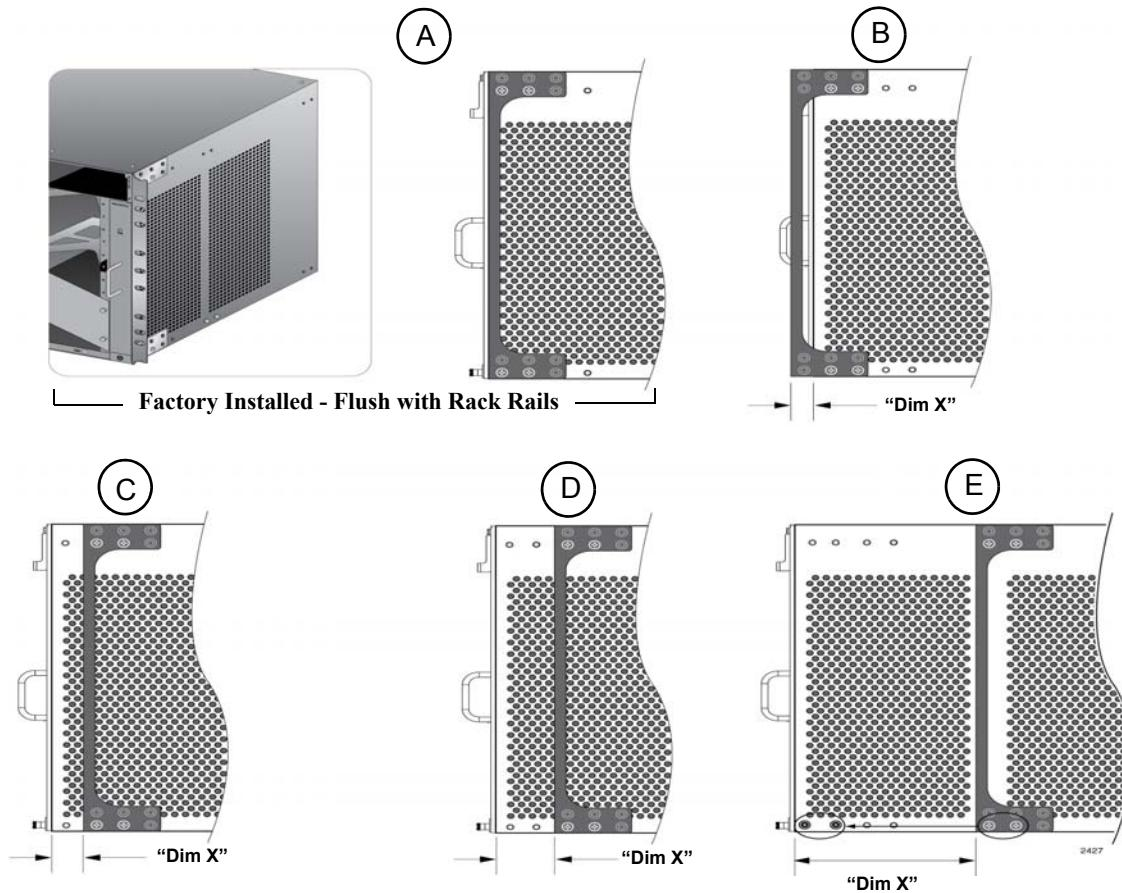
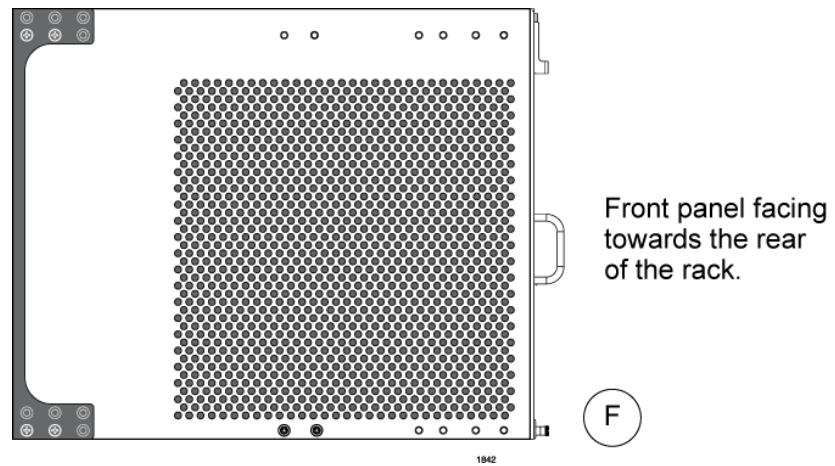

Figure 33. Rack Mounting Bracket Locations
Figure 34. Rack Bracket Locations for Reverse Position of Chassis
The different bracket positions are listed in Table 20 and illustrated in Figure 33 on page 79 and Figure 34 on page 79. Please review the following information before moving the brackets:
- To install the rack mount brackets in position “E,” you have to remove the two chassis screws from the bottom-middle section of the chassis and re-install them in front where the rack mount bracket screws were originally, as shown in Figure 33 on page 79.
- The dimension (X) between the front panel and the rack rails is given for each rack mounting bracket position in Table 20.